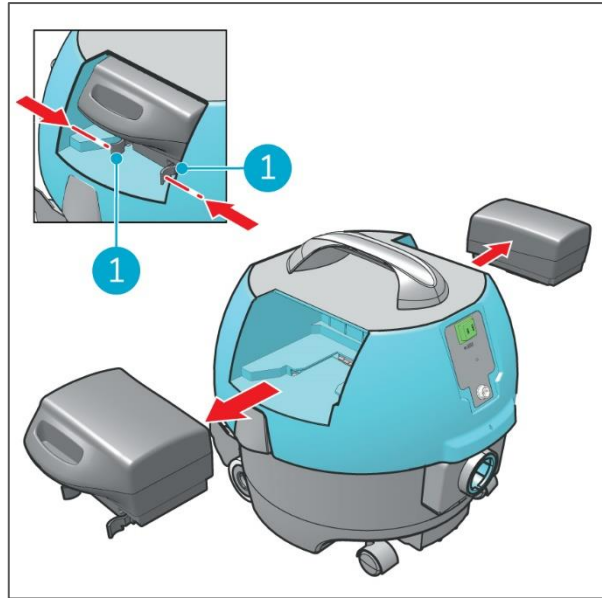

Figure 19
1. Press the plastic clips of the battery (Figure 19, pos 1) slightly towards each other.